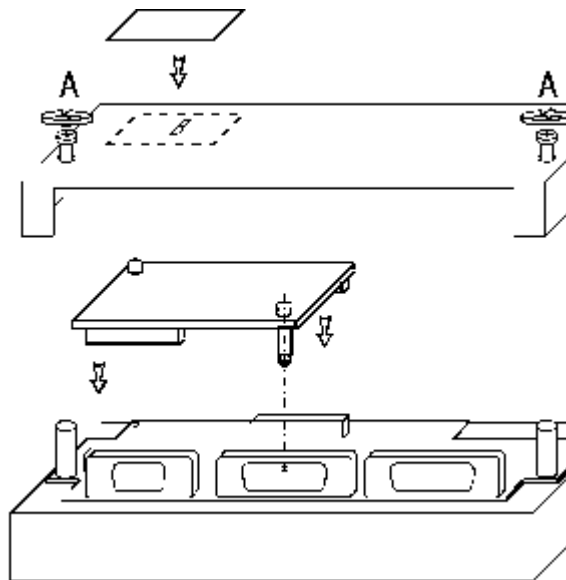

Figure 4
2. Unscrew (not completely) with a screwdriver the two screws "A" (shown in Figure 4) attaching the rear cover.